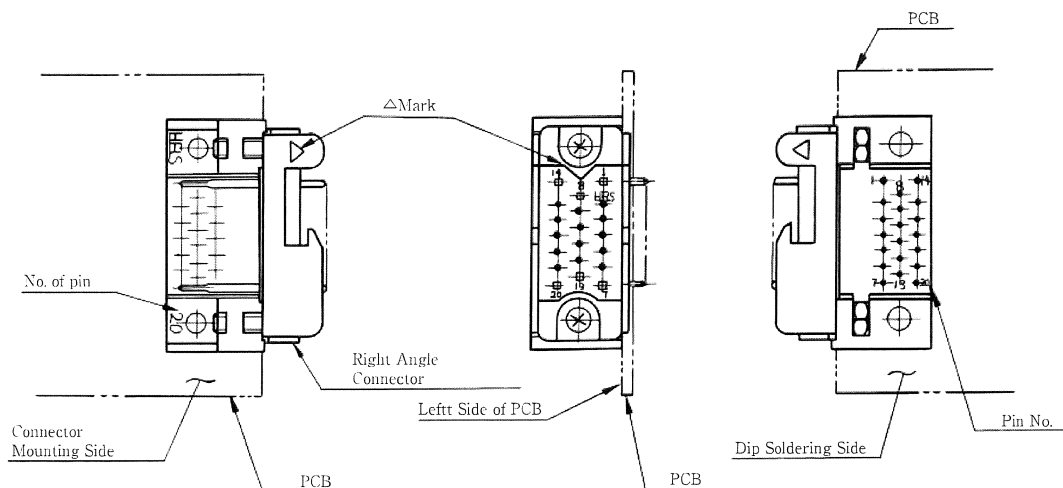

Fig. 1
1. The standard use of this to mount it on the left side of a vertical PC board. (Fig. 1)